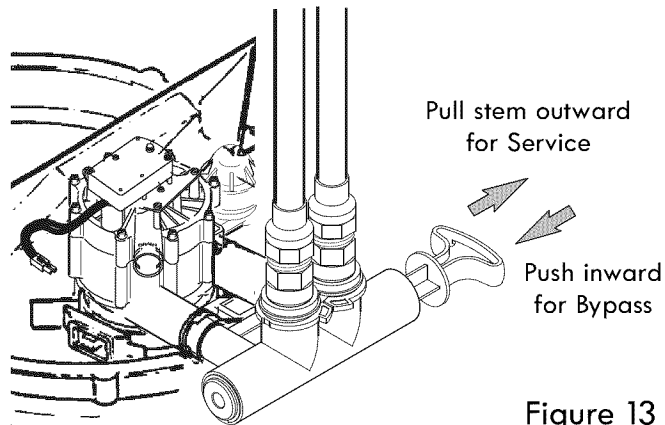

Figure 13
3. Place bypass valve(s) in "bypass" position (see Figures 13 & 14). On a single valve, slide the stem inward to bypass. On a 3-valve bypass, close the inlet and outlet valves and open the bypass valve.